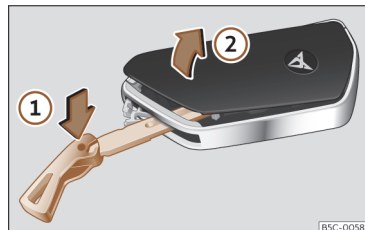

Fig. 64 Vehicle key: open the battery compartment cover.
- Insert the key blade into the slot >>> Fig. 64, press it in the direction of arrow ① and detach the cover by levering it ②.